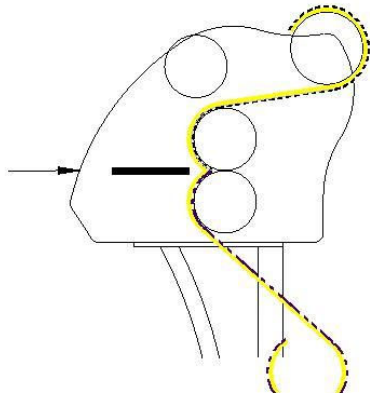

Figure 18
- Use the provided leaderboard to push the film(s) through the nip (figure 18 or 19).